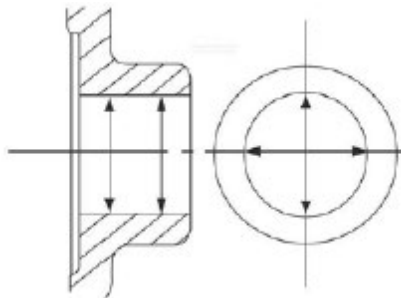

Figure 91.
5. Subtract the piston measurement from the greatest measurement acquired during cylinder inspection to obtain piston-to-cylinder clearance. Record the Measurement. Measure the diameter of the piston pin bore on both sides of the piston (Figure 91). See the *Mechanical Specifications Chart*. Record the measurements.